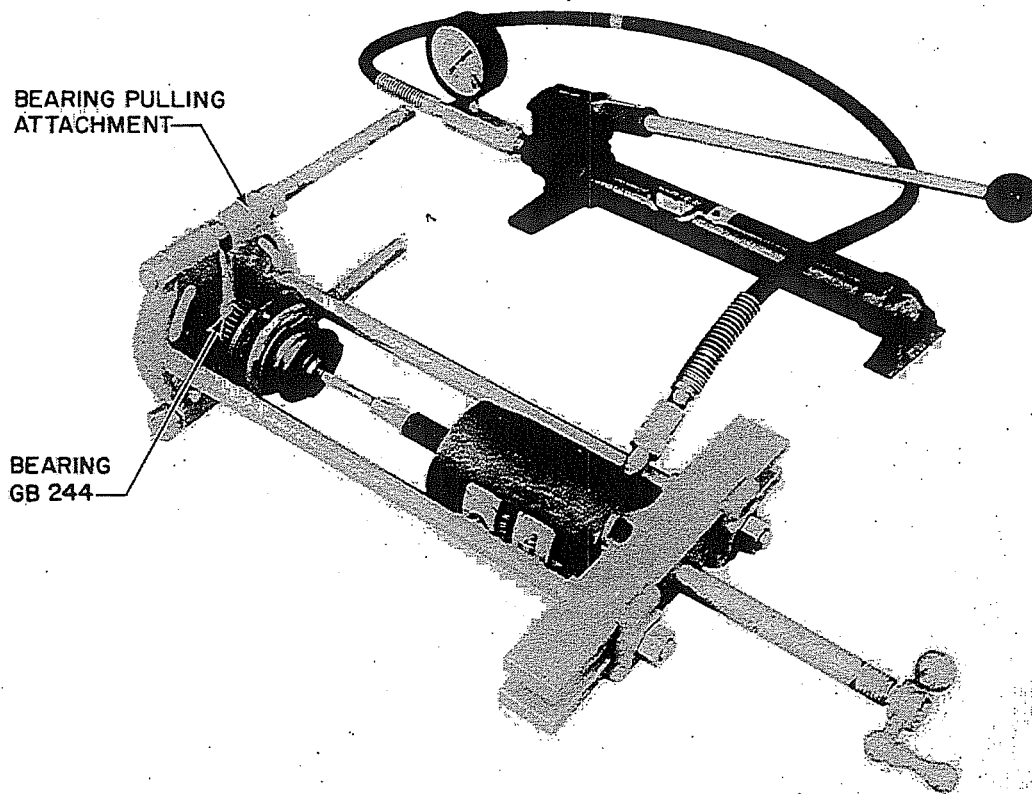

Figure 50. Detector, Installation of Bearing GB244
- Z. Secure the bearing pulling attachment behind Bearing GB244 and install, making certain that the bearing is seated firmly against the shoulder of the shaft (figure 50).